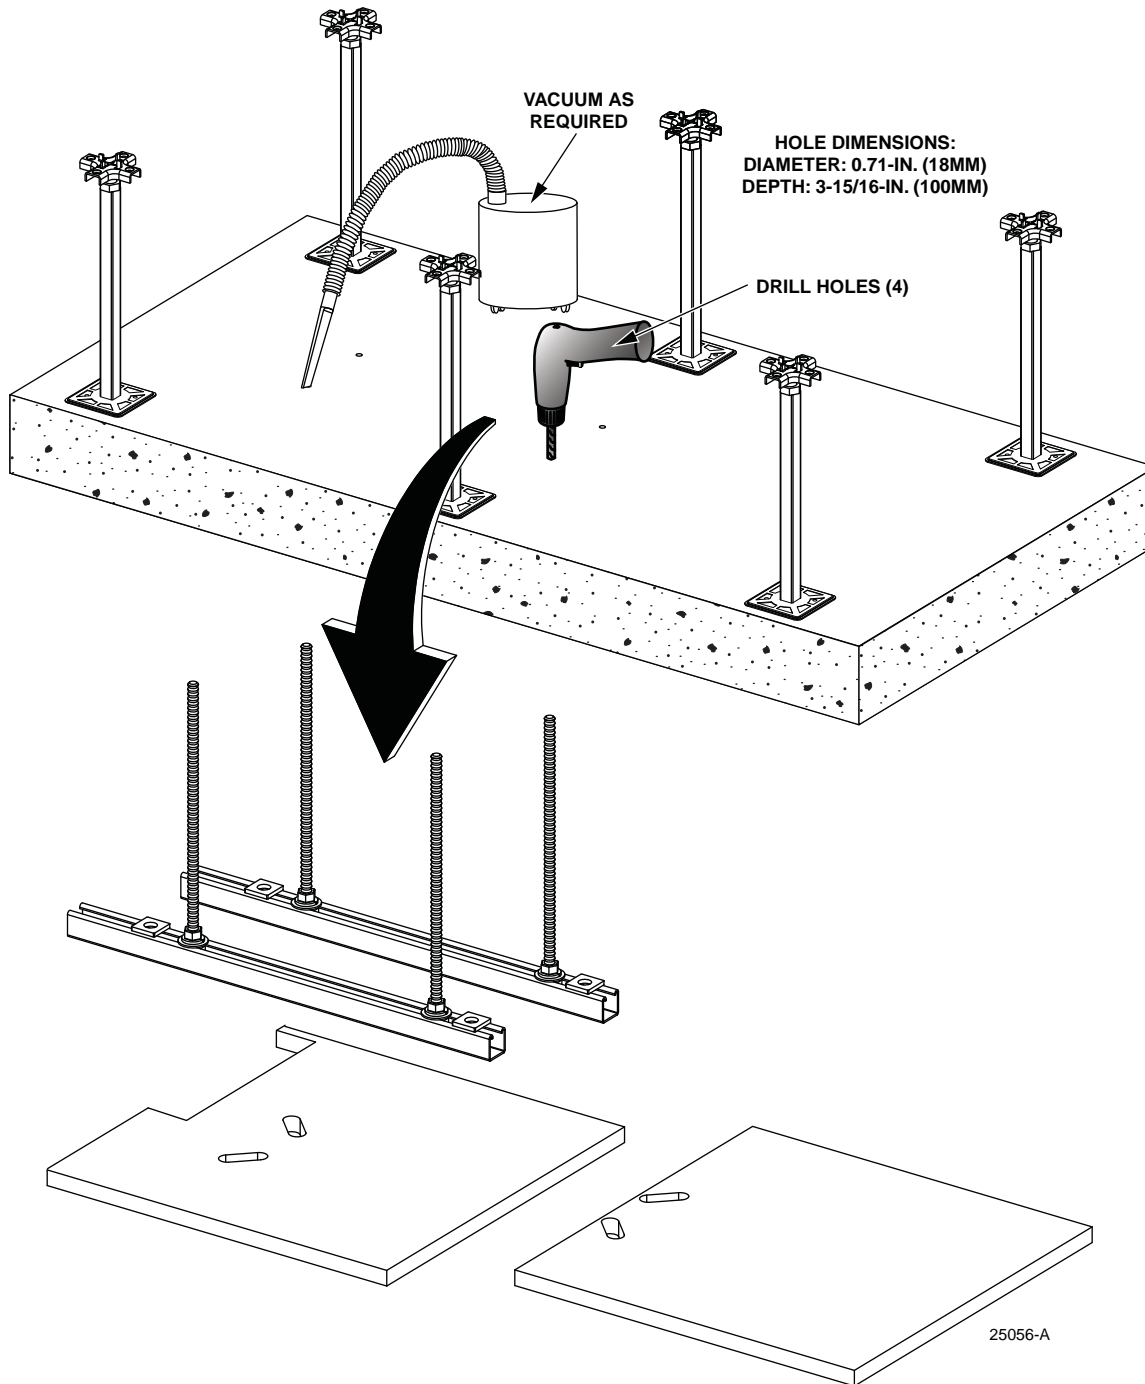

Figure 14. Drilling Holes
13. Set the floor tiles and unistrut assemblies aside and drill holes at the anchor bolt locations. Refer to Figure 14.